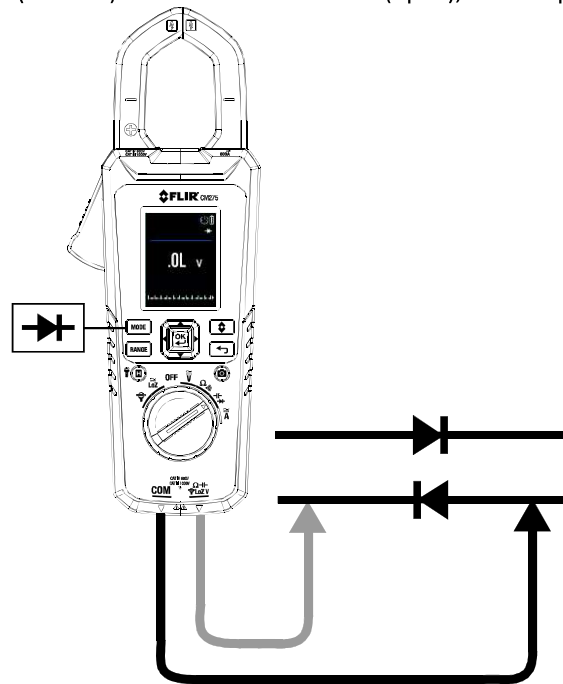

Fig. 9-6 Classic Diode Test
4. Touch the tips of the probe across the diode or semiconductor junction in one polarity (direction) and then in the opposite polarity as shown in **Fig. 9-6**.
3. Insert the black probe lead into the negative COM terminal and the red probe lead into the positive Ω terminal. Refer to **Fig. 9-6** above.